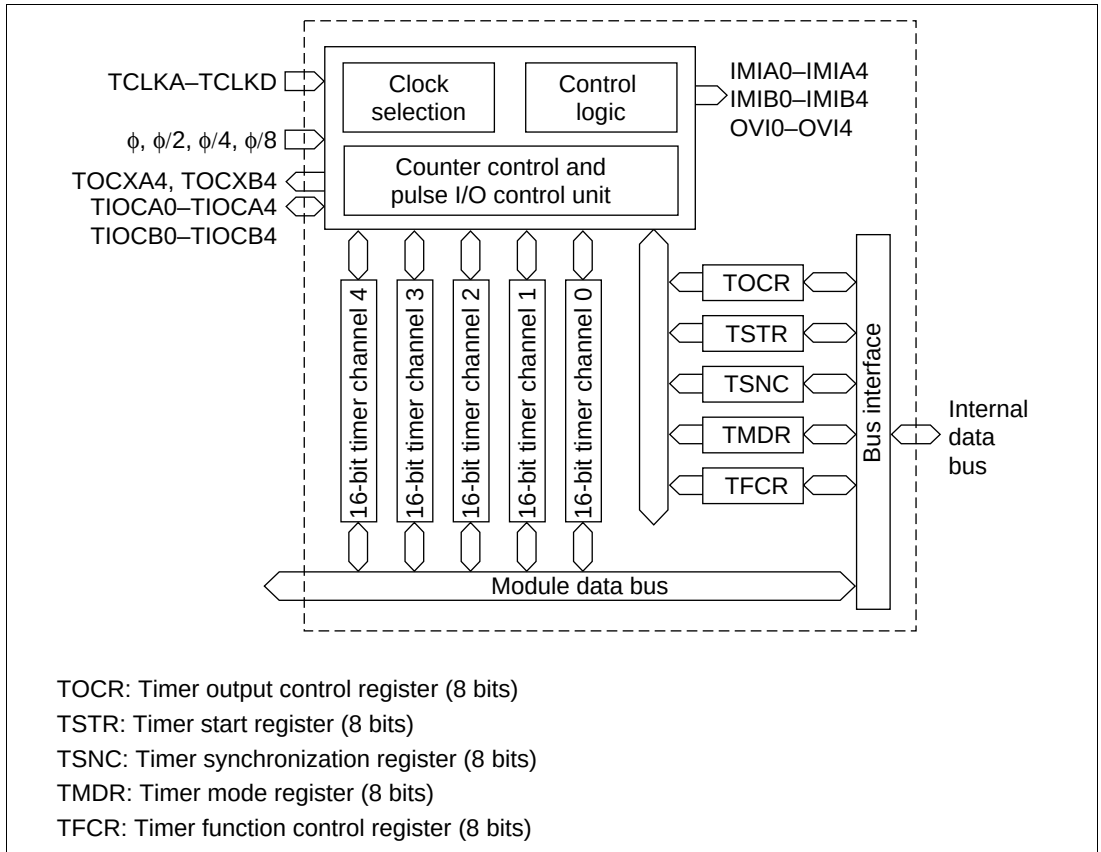

**Figure 10.1 Block Diagram of ITU**
**ITU Block Diagram (Overall Diagram):** Figure 10.1 shows a block diagram of the ITU.